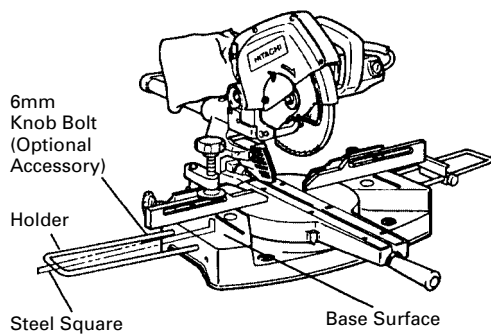

Fig. 12
- (1) As indicated in Fig. 12, use a steel square for aligning the upper edge of the holders with the base surface.
- (2) After aligning, secure the holders with the 6mm knob bolts (Optional accessory).